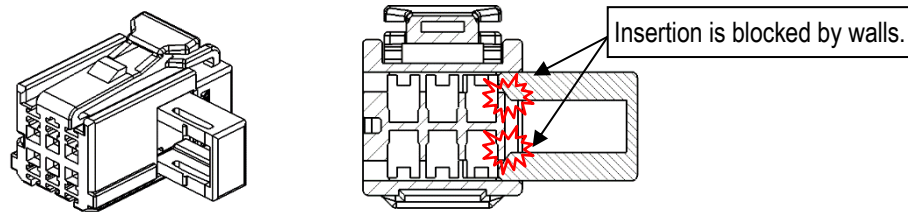

Fig35. Incorrect retainer installation
⑤ The retainer cannot be inserted, when it is inserted in incorrect orientation to the female housing, as shown in Fig.35.